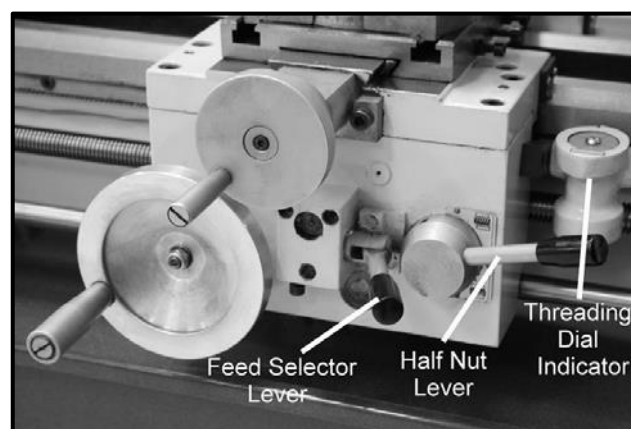

Figure-16 Carriage controls
**AUTO FEED SELECTOR LEVER:** Moving this lever upward engages the automatic longitudinal feed. Moving this lever down engages the automatic traverse feed. See figure-16.
**THREADING DIAL INDICATOR:** This indicator tells you when to engage the half nut for threading process. See figure-16.